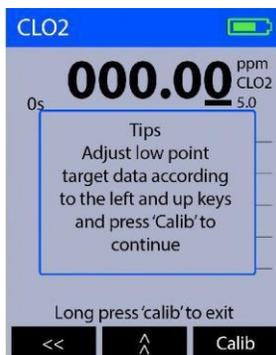
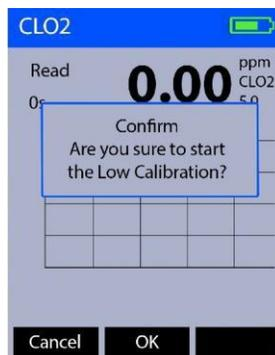

Figure 10.
Figure 11.
2. Press **Cal/Sys** (OK) as needed to highlight **Low-C**.
3. Press **OK** (>) to launch the calibration screen (Figure 10).
4. Fill a sample vial with deionized (DI) water or with solution with a known concentration and place it in the sample vial compartment of the SP-200.
5. Use « (<) and :: (>) to adjust the concentration value to match the known concentration of the solution or to zero if using deionized (DI) water.
6. Press **Calib** (OK) to continue with the entered concentration value. The display updates as shown in Figure 11.